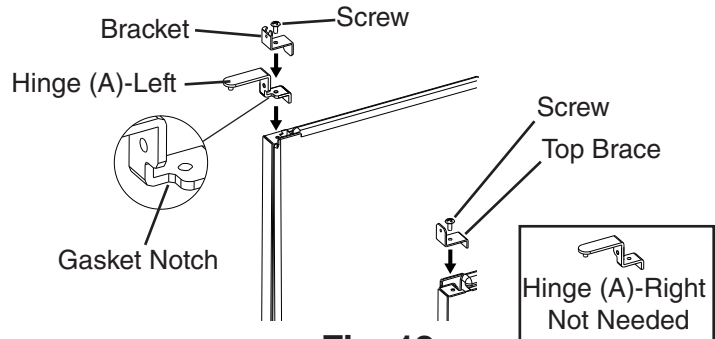

Fig. 12
- c) Remove hinge (A)-right and the bracket from the right side of the appliance. Set aside hinge (A)-right; it is not needed. Remove the top brace from the left side. Fasten hinge (A)-left and the bracket to the left side and the top brace to the right side. See Fig. 12.